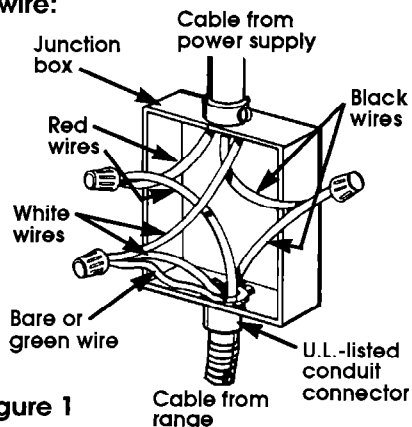

Figure 1
3. Connect the two black wires together; then the two red wires together. See Figure 1.